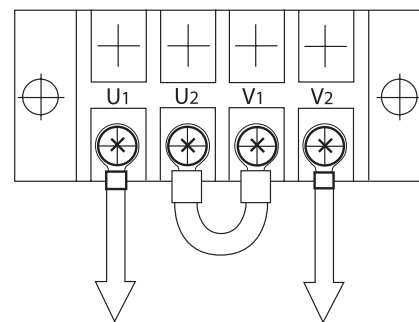

Figure 23: Output Terminal Board, 240 Volt Output
- Connect U2 to V1 on the output terminal board (Figure 23).